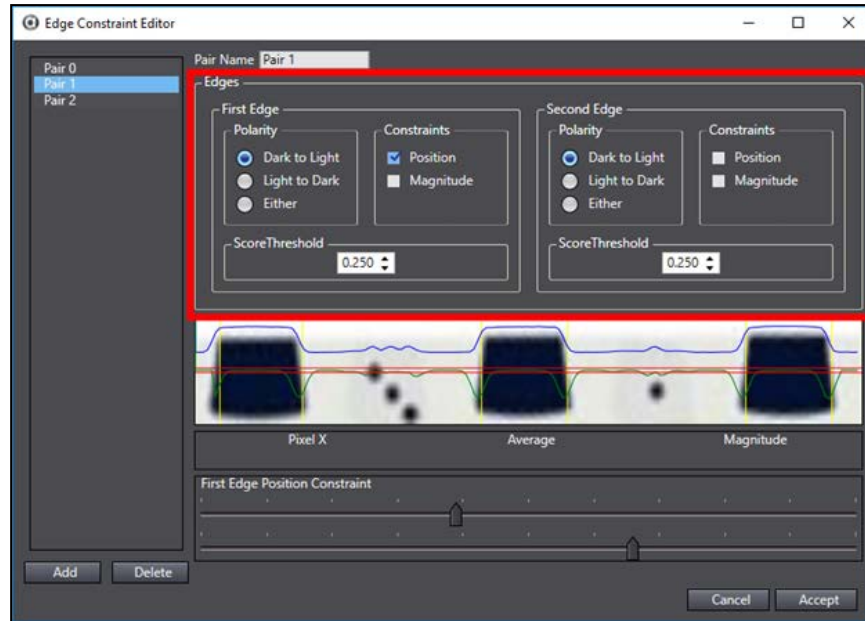

Figure 8-255 Arc Caliper - Edge Constraint Editor - Edges
- **Polarity:** defines the gray level deviation for which the tool searches. This is performed with respect to the clockwise direction of the region of interest. For example, in Figure 8-255 Dark to Light is selected for both edges, and in both cases, the left side of the edge is black.